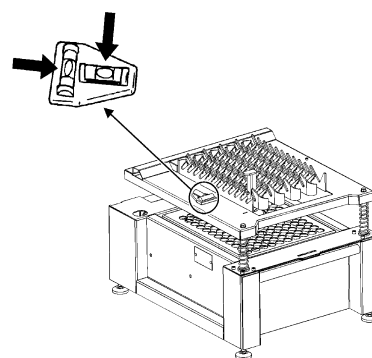

Figure 2.1 Spirit level
- 1) Position and level the Shuttle sampling device (figure 2.1) in the vicinity of the Astronaut milking robot.